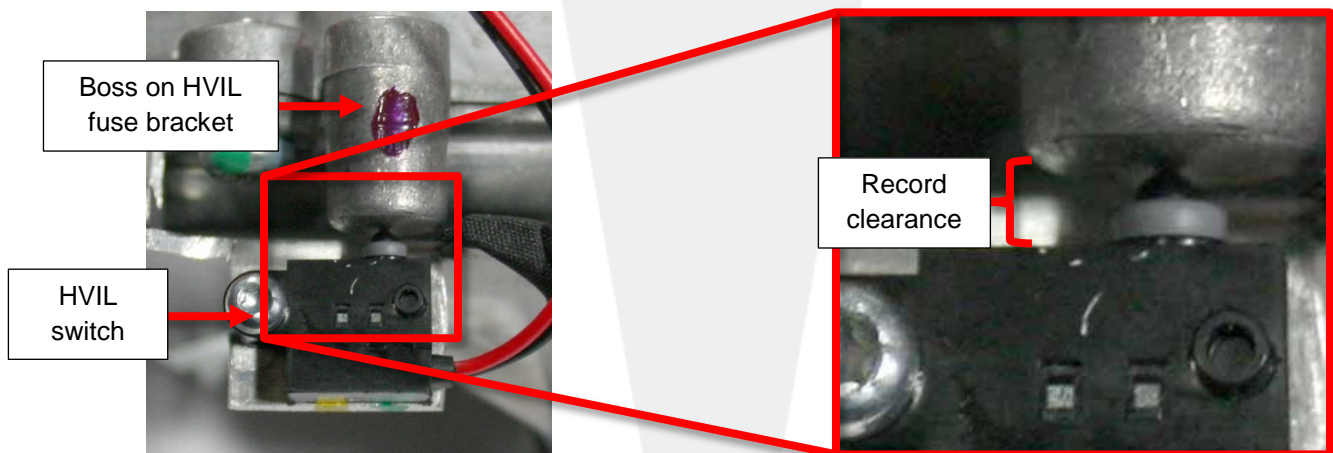

Figure 4
4. Measure the clearance between the HVIL switch body and the boss on the bracket (Figure 4). Record this value; it will be used in a later step.